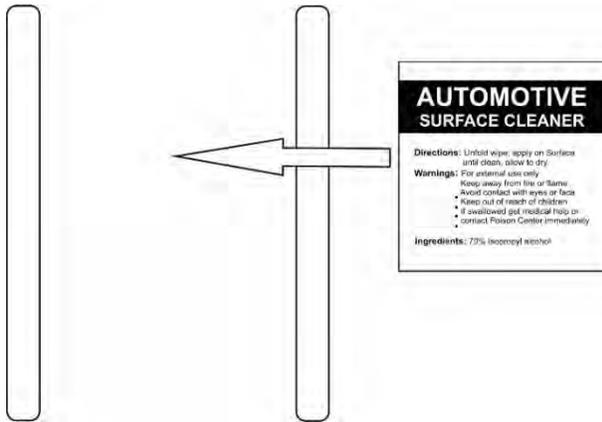

Fig 11
- Remove the adhesive pedestals and thoroughly clean the outlined area with the automotive surface cleaner. Wipe dry with a clean cloth or paper towel. This will ensure all wax, fingerprints, and oils are removed from the hood surface in the bonding area. (Fig 11)